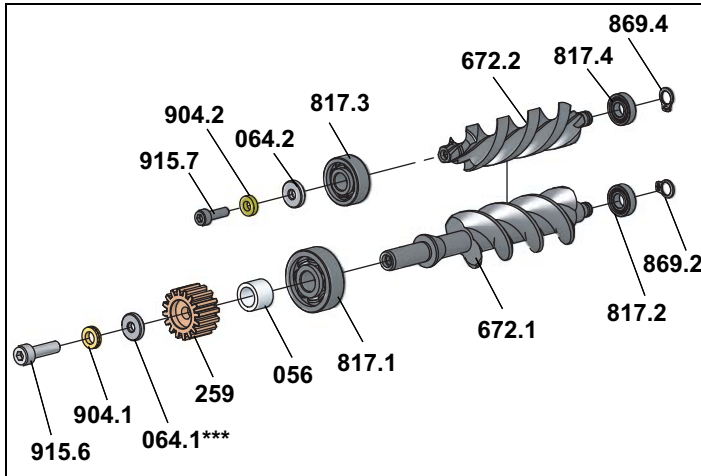

Fig. 9
5. Screw out the socket screws **915.6** and **915.7** and remove the lock washers **904.1**, **904.2** and supporting discs **064.1*****, **064.2**. Overview see Fig. 9, page 31.